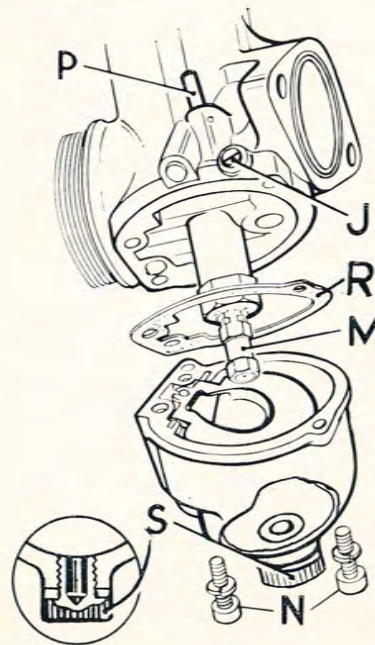

Fig. 13.
An exploded view of the carburettor is shown in Fig. 13. Opening the twist grip throttle control raises the throttle slide, thus controlling the supply of air to the motor. The tapered needle controlling the supply of gas (petrol) is attached to the throttle slide so that a balanced mixture is always provided. The needle has grooves at its upper end and it is secured in the throttle slide by the spring and by the circlip which locates in one of these grooves.
Screwing in the pilot air screw (J) Fig. 13, restricts the air supply, thus giving a richer mixture and unscrewing it gives a lean mixture.